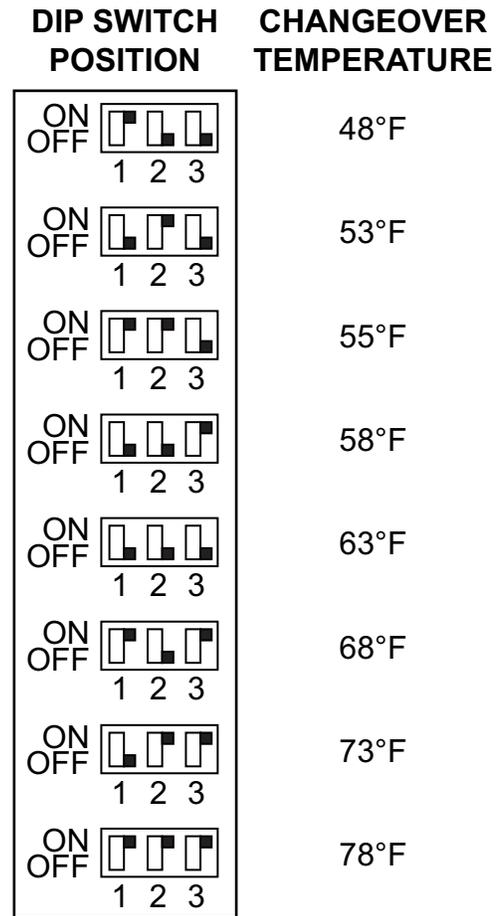
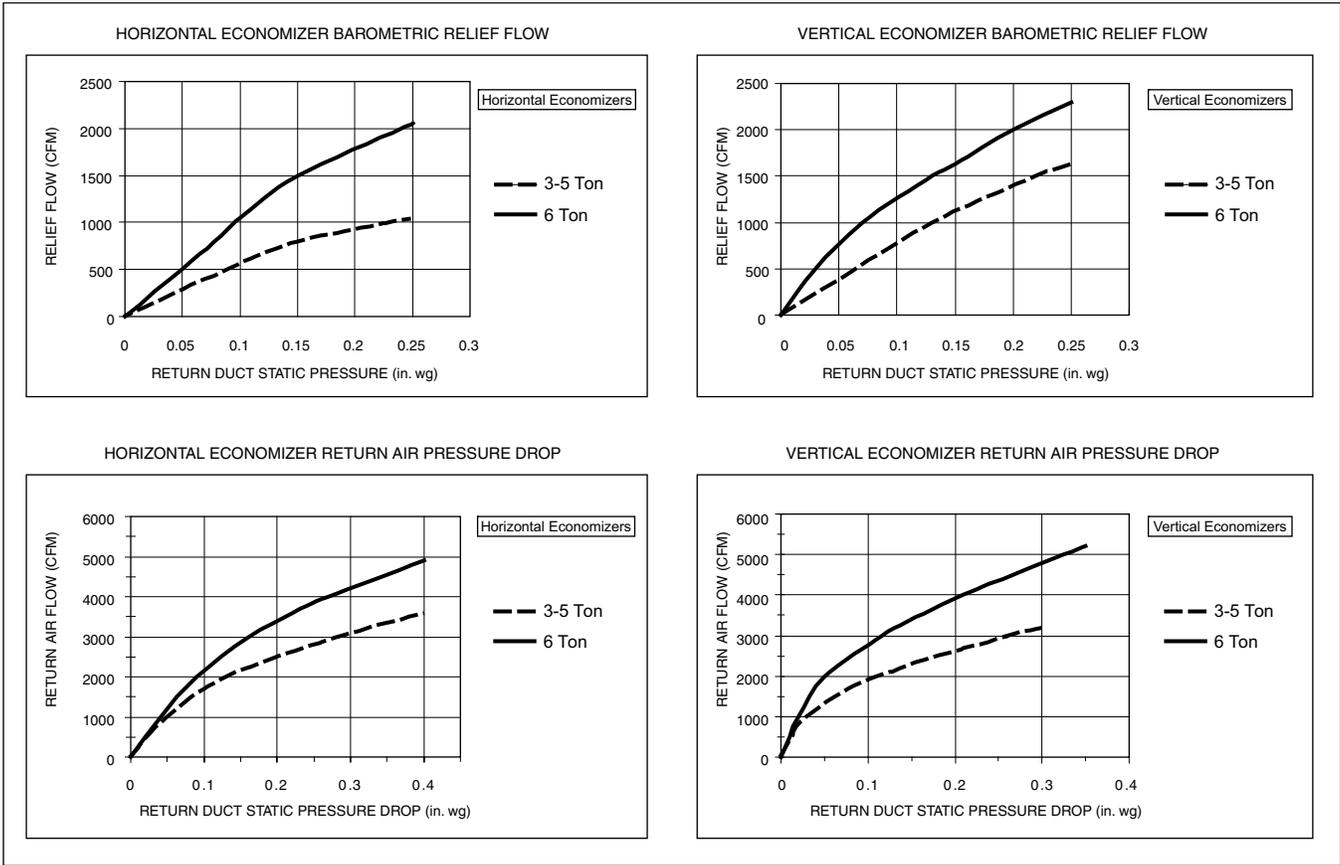

Fig. 60 — Outdoor Air Temperature Changeover Set Points
Fig. 61 — Outdoor-Air Damper Leakage
The standard controller is shipped from the factory configured for outdoor dry bulb changeover control. For this control mode, the outdoor temperature is compared to a selectable set point on the OAT sensor. If the outdoor air temperature is above the set point, the EconoMiSer IV will adjust the outdoor air dampers to minimum position. If the outdoor air temperature is below the set point, the position of the outdoor air dampers will be controlled to provide free cooling using outdoor air. When in this mode, the Free Cool LED next to the outdoor enthalpy set point (ABCD) potentiometer will be on. The changeover temperature set point is controlled by the dip switches on the sensor. See Fig. 60 for the switch positions corresponding to the temperature changeover values. The ABCD potentiometer on the controller should be turned fully clockwise (CW) to the “D” position. See Fig. 61 for damper leakage.